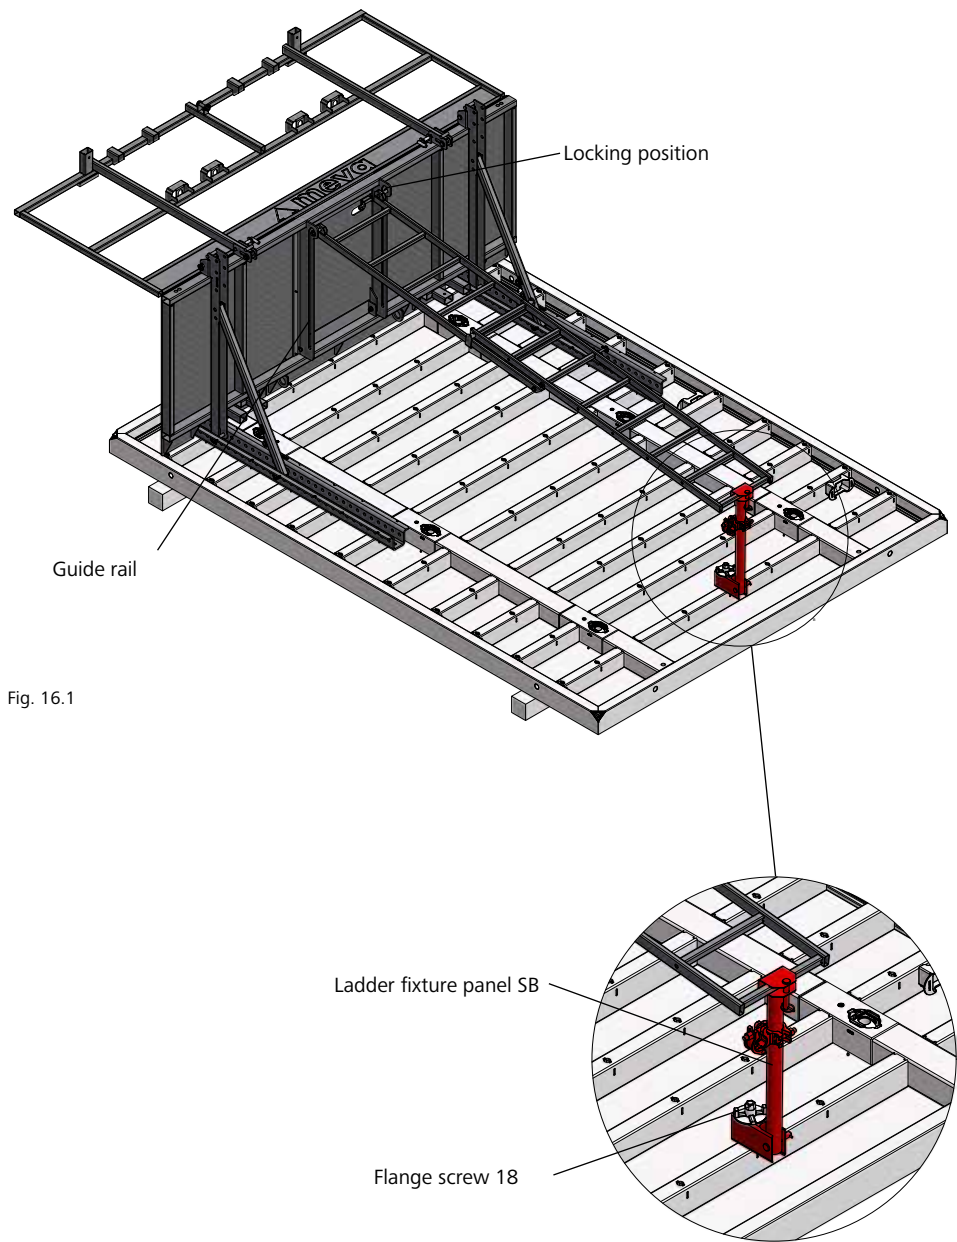

Fig. 16.1
- 13. Move the ladder in the guide until it reaches the rear edge of the platform and is in the locking position (Fig. 16.1).
- 14. At the foot of the ladder, attach the ladder fixture panel SB to the central multi-function nut of the Mammut XT panel with a flange screw 18 (Fig. 16.1).
- 15. Hook the ladder fixture panel SB over the bottom rung of the ladder and secure it using the integrated bolt and cotter pin (Fig. 16.1).